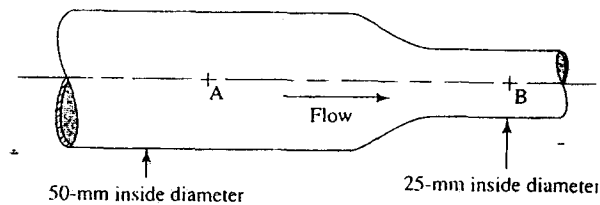

Figure 6 / Rajah 6
- [b] For the pipe reducer shown in Figure 6, the pressure at A is 345 kPa and the pressure at B is 290 kPa. Calculate the velocity of flow of water at point B.